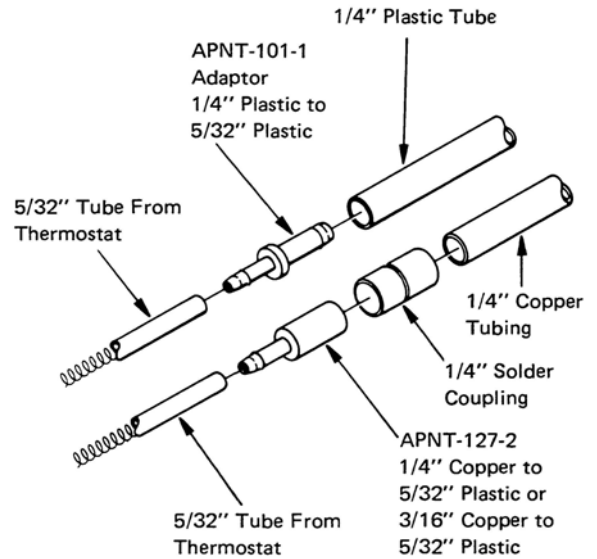

Figure-5
3. Slightly rotate the tubes back and forth, and push firmly on to the fittings (Figure-5).